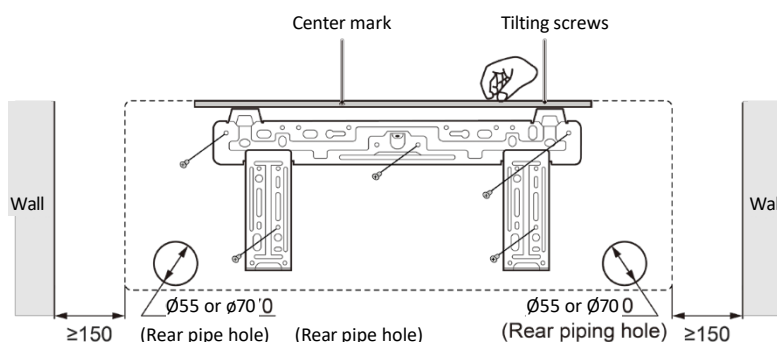
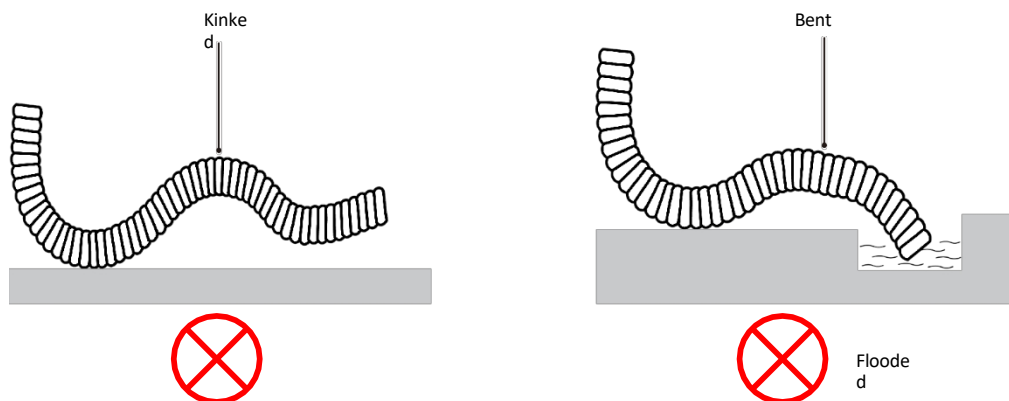

Fig. 4.2
Fig. 4.3
- 4 The diameter shown in Fig. 4.2 is 55 mm or 70 mm.
- ① Drill the pipe hole (Φ 55 mm or 70 mm) in the wall with a slight downward slope on the outer side. The center of the hole must be determined by referring to Fig. 4.2.
- ② Insert the sleeve into the hole for this purpose to prevent the piping and wiring from being damaged when passing through the hole.
- ① For proper drainage, the hose must be sloped downward.
- ② Do not twist or kink the drain hose, and do not allow water to accumulate at its end. (Fig. 4.3)
- ③ Wrap the drain hose with heat-resistant material.
- ④ Do not connect the condensate drain hose to the drain pipe or other pipes that may produce a corrosive or unpleasant odor, as the odor could enter the unit or damage it.
- ⑤ Do not connect the condensate drain pipe to the rainwater drain, as rainwater could seep in and cause injury or property damage.
- ⑥ The condensate drain hose must be connected to a drainage system specifically designed for the air conditioner.